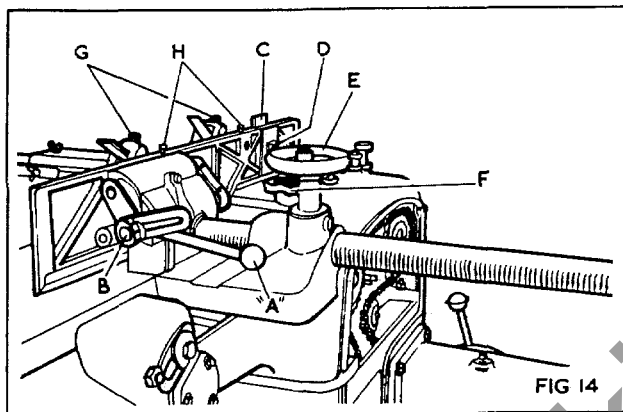
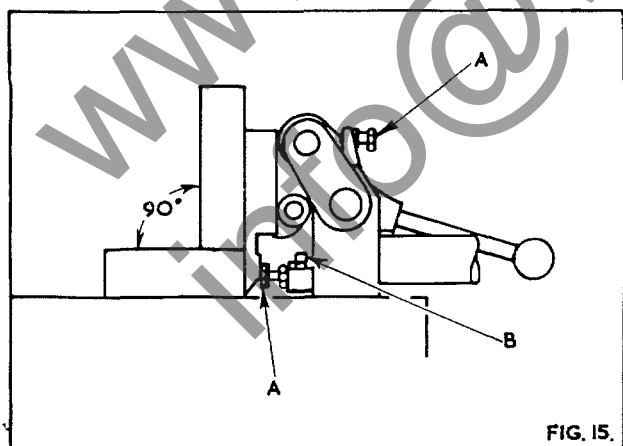

FIG. 14
FIG. 15
The fence cants by means of a lever "A" in fig. 14.
1. Move the fence towards the rear of the table, as shown in fig. 15.
2. Check the 90° positive stops by means of a steel square as in fig. 15. If adjustment is necessary adjust the hexagon head bolts "A" until fence is at right angles to the table when hard up against the stops and handwheel "B", in fig. 14 locked.
3. Check the 45° positive stops by means of an adjustable square or mitre gauge. Should adjustment be necessary move the hollow set screw "B", in fig. 15 until the fence is at 45° to the table when hard up against the stop and handwheel "B" in fig. 14 locked.